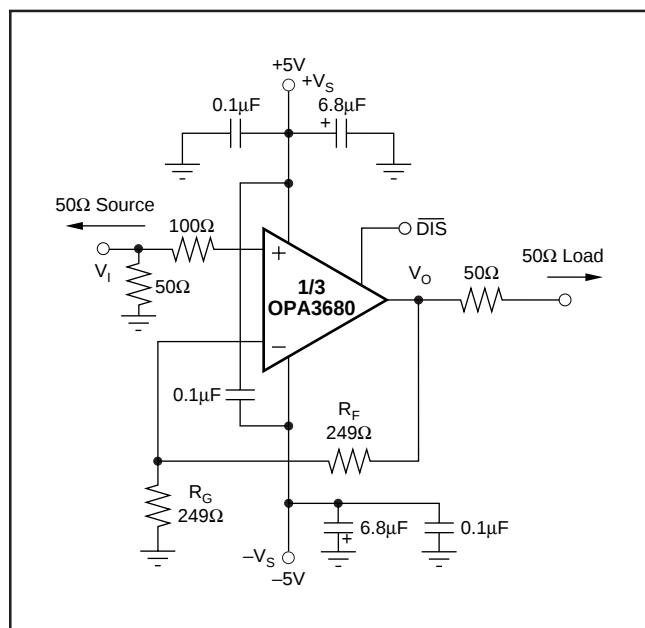
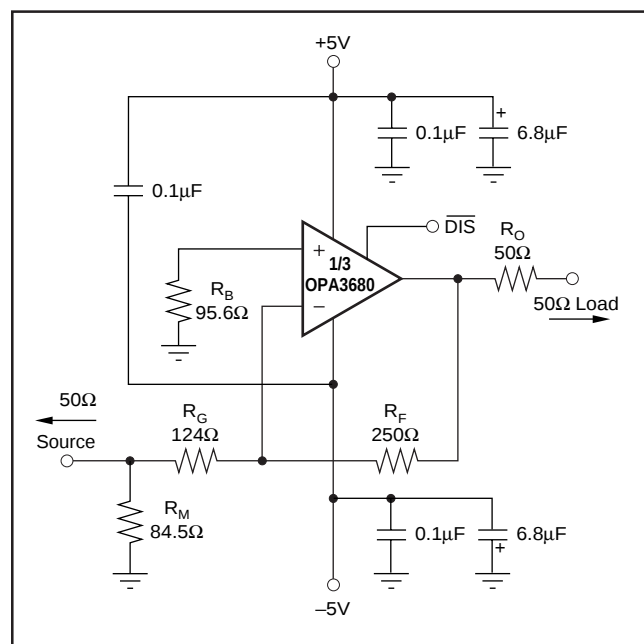

FIGURE 1. DC-Coupled, $G = +2$, Bipolar Supply, Specification and Test Circuit.
FIGURE 9. Gain of -2 Example Circuit.
At $T_A = +25^\circ\text{C}$, $G = +2$, $R_F = 250\Omega$, and $R_L = 100\Omega$, unless otherwise noted. See Figure 1.
At $T_A = +25^\circ C$, $G = +2$, $R_F = 250\Omega$, and $R_L = 100\Omega$, unless otherwise noted. See Figure 1.
Figure 1 shows the DC-coupled, gain of +2, dual power supply circuit configuration used as the basis of the $\pm 5\text{V}$ Specifications and Typical Performance Curves. For test purposes, the input impedance is set to 50Ω with a resistor to ground and the output impedance is set to 50Ω with a series output resistor. Voltage swings reported in the specifications are taken directly at the input and output pins, while output powers (dBm) are at the matched 50Ω load. For the circuit of Figure 1, the total effective load will be $100\Omega \parallel 498\Omega$. The disable control line is typically left open to guarantee normal amplifier operation. Two optional components are included in Figure 1. An additional resistor (100Ω) is included in series with the non-inverting input. Combined with the 25Ω DC source resistance looking back towards the signal generator, this gives an input bias current cancelling resistance that
A good rule of thumb is to target the parallel combination of R_F and R_G (Figure 1) to be less than approximately 125Ω . The combined impedance $R_F \parallel R_G$ interacts with the inverting input capacitance, placing an additional pole in the feedback network and thus, a zero in the forward response. Assuming a $3pF$ total parasitic on the inverting node, holding $R_F \parallel R_G < 125\Omega$ will keep this pole above $400MHz$. By itself, this constraint implies that the feedback resistor R_F can increase to several $k\Omega$ at high gains. This is acceptable as long as the pole formed by R_F and any parasitic capacitance appearing in parallel with it is kept out of the frequency range of interest.
Voltage-feedback op amps exhibit decreasing closed-loop bandwidth as the signal gain is increased. In theory, this relationship is described by the Gain Bandwidth Product (GBP) shown in the specifications. Ideally, dividing GBP by the non-inverting signal gain (also called the Noise Gain, or NG) will predict the closed-loop bandwidth. In practice, this only holds true when the phase margin approaches 90° , as it does in high gain configurations. At low gains (increased feedback factors), most amplifiers will exhibit a more complex response with lower phase margin. The OPA3680 is compensated to give a slightly peaked response in a non-inverting gain of 2 (Figure 1). This results in a typical gain of +2 bandwidth of $220MHz$, far exceeding that predicted by dividing the $300MHz$ GBP by 2. Increasing the gain will cause the phase margin to approach 90° and the bandwidth to more closely approach the predicted value of (GBP/NG) . At a gain of +10, the $30MHz$ bandwidth shown in the Typical Specifications agrees with that predicted using the simple formula and the typical GBP of $300MHz$.
Frequency response in a gain of +2 may be modified to achieve exceptional flatness simply by increasing the noise gain to 2.5. One way to do this, without affecting the +2 signal gain, is to add a 453Ω resistor across the two inputs in the circuit of Figure 1. A similar technique may be used to reduce peaking in unity gain (voltage follower) applica-
Since the OPA3680 is a general purpose, wideband voltage feedback op amp, all of the familiar op amp application circuits are available to the designer. Inverting operation is one of the more common requirements and offers several performance benefits. Figure 9 shows a typical inverting configuration where the I/O impedances and signal gain from Figure 1 are retained in an inverting circuit configuration.
advantage that the noise gain becomes equal to 2 for a 50Ω source impedance—the same as the non-inverting circuits considered above. However, the amplifier output will now see the 100Ω feedback resistor in parallel with the external load. In general, the feedback resistor should be limited to the 100Ω to 1.5kΩ range. In this case, it is preferable to increase both the R_F and R_G values as shown in Figure 9 and then achieve the input matching impedance with a third resistor (R_M) to ground. The total input impedance becomes the parallel combination of R_G and R_M .
The second major consideration, touched on in the previous paragraph, is that the signal source impedance becomes part of the noise gain equation and hence influences the bandwidth. For the example in Figure 9, the R_M value combines in parallel with the external 50Ω source impedance, yielding an effective driving impedance of $50\Omega \parallel 84.5\Omega = 31.4\Omega$. This impedance is added in series with R_G for calculating the noise gain (NG). The resultant NG is 2.6 for Figure 9, as opposed to only 2 if R_M could be eliminated as discussed above. The bandwidth will therefore be slightly lower for the gain of -2 circuit of Figure 9 than for the gain of $+2$ circuit of Figure 1.
The third important consideration in inverting amplifier design is setting the bias current cancellation resistor on the non-inverting input (R_B). If this resistor is set equal to the total DC resistance looking out of the inverting node, the output DC error, due to the input bias currents, will be reduced to (Input Offset Current) $\cdot R_F$. If the 50Ω source impedance is DC-coupled in Figure 9, the total resistance to ground on the inverting input will be 155Ω. Combining this in parallel with the feedback resistor gives the $R_B = 95.6\Omega$ used in this example. To reduce the additional high frequency noise introduced by this resistor, it is sometimes bypassed with a capacitor. As long as $R_B < 350\Omega$, the capacitor is not required since the total noise contribution of all other terms will be less than that of the op amp's input noise voltage. As a minimum, the OPA3680 requires an R_B value of 50Ω to damp out parasitic-induced peaking—a direct short to ground on the non-inverting input runs the risk of a very high frequency instability in the input stage.
The distortion plots show which changes in operation will improve distortion. Increasing the load impedance improves distortion directly. Remember that the total load includes the feedback network; in the non-inverting configuration (Figure 1) this is sum of $R_F + R_G$, while in the inverting configuration (Figure 9), it is just R_F . Also, providing an additional supply decoupling capacitor (0.1μF) between the supply pins (for bipolar operation) improves the 2nd-order distortion slightly (3dB to 6dB).
Evaluating these two equations for the OPA3680 circuit and component values shown in Figure 1 will give a total output spot noise voltage of $11\text{nV}/\sqrt{\text{Hz}}$ and a total equivalent input spot noise voltage of $5.5\text{nV}/\sqrt{\text{Hz}}$. This is including the noise added by the bias current cancellation resistor (100Ω) on the non-inverting input. This total input-referred spot noise voltage is only slightly higher than the $4.8\text{nV}/\sqrt{\text{Hz}}$ specification for the op amp voltage noise alone. This will be the case as long as the impedances appearing at each op amp input are limited to the previously recommend maximum value of 125Ω . Keeping both $(R_F \parallel R_G)$ and the non-inverting input source impedance less than 125Ω will satisfy both noise and frequency response flatness considerations. Since the resistor-induced noise is relatively negligible, additional capacitive decoupling across the bias current cancellation resistor (R_B) for the inverting op amp configuration of Figure 9 is not required.
The balanced input stage of a wideband voltage feedback op amp allows good output DC accuracy in a wide variety of applications. The power supply current trim for the OPA3680 gives even tighter control than comparable products. Although the high speed input stage does require relatively high input bias current (typically $14\mu\text{A}$ out of each input terminal), the close matching between them may be used to reduce the output DC error caused by this current. The total output offset voltage may be considerably reduced by matching the DC source resistances appearing at the two inputs. This reduces the output DC error due to the input bias currents to the offset current times the feedback resistor. Evaluating the configuration of Figure 1, using worst-case $+25^\circ\text{C}$ input offset voltage and current specifications, gives